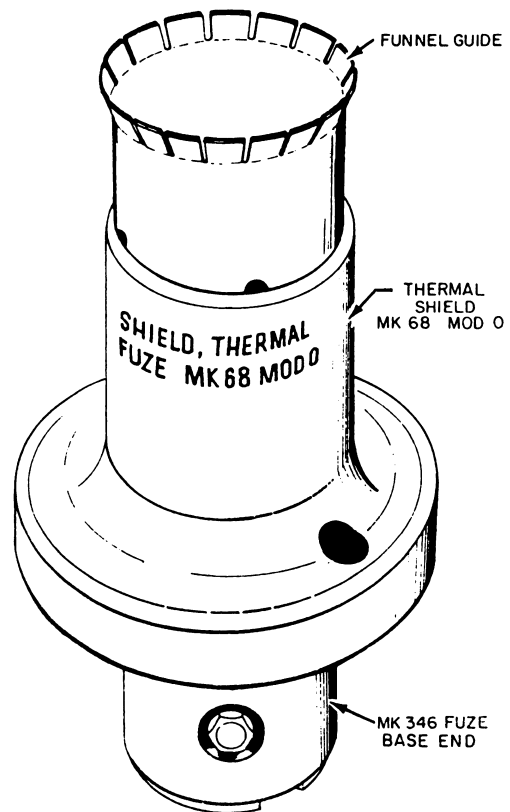

Figure 12-27.—Mk 346 fuze with the Mk 68 thermal shield installed.
6. Install the thermal shield (fig. 12-27) on the fuze when a thermally protected bomb Mk 82 Mod 0 is being assembled.